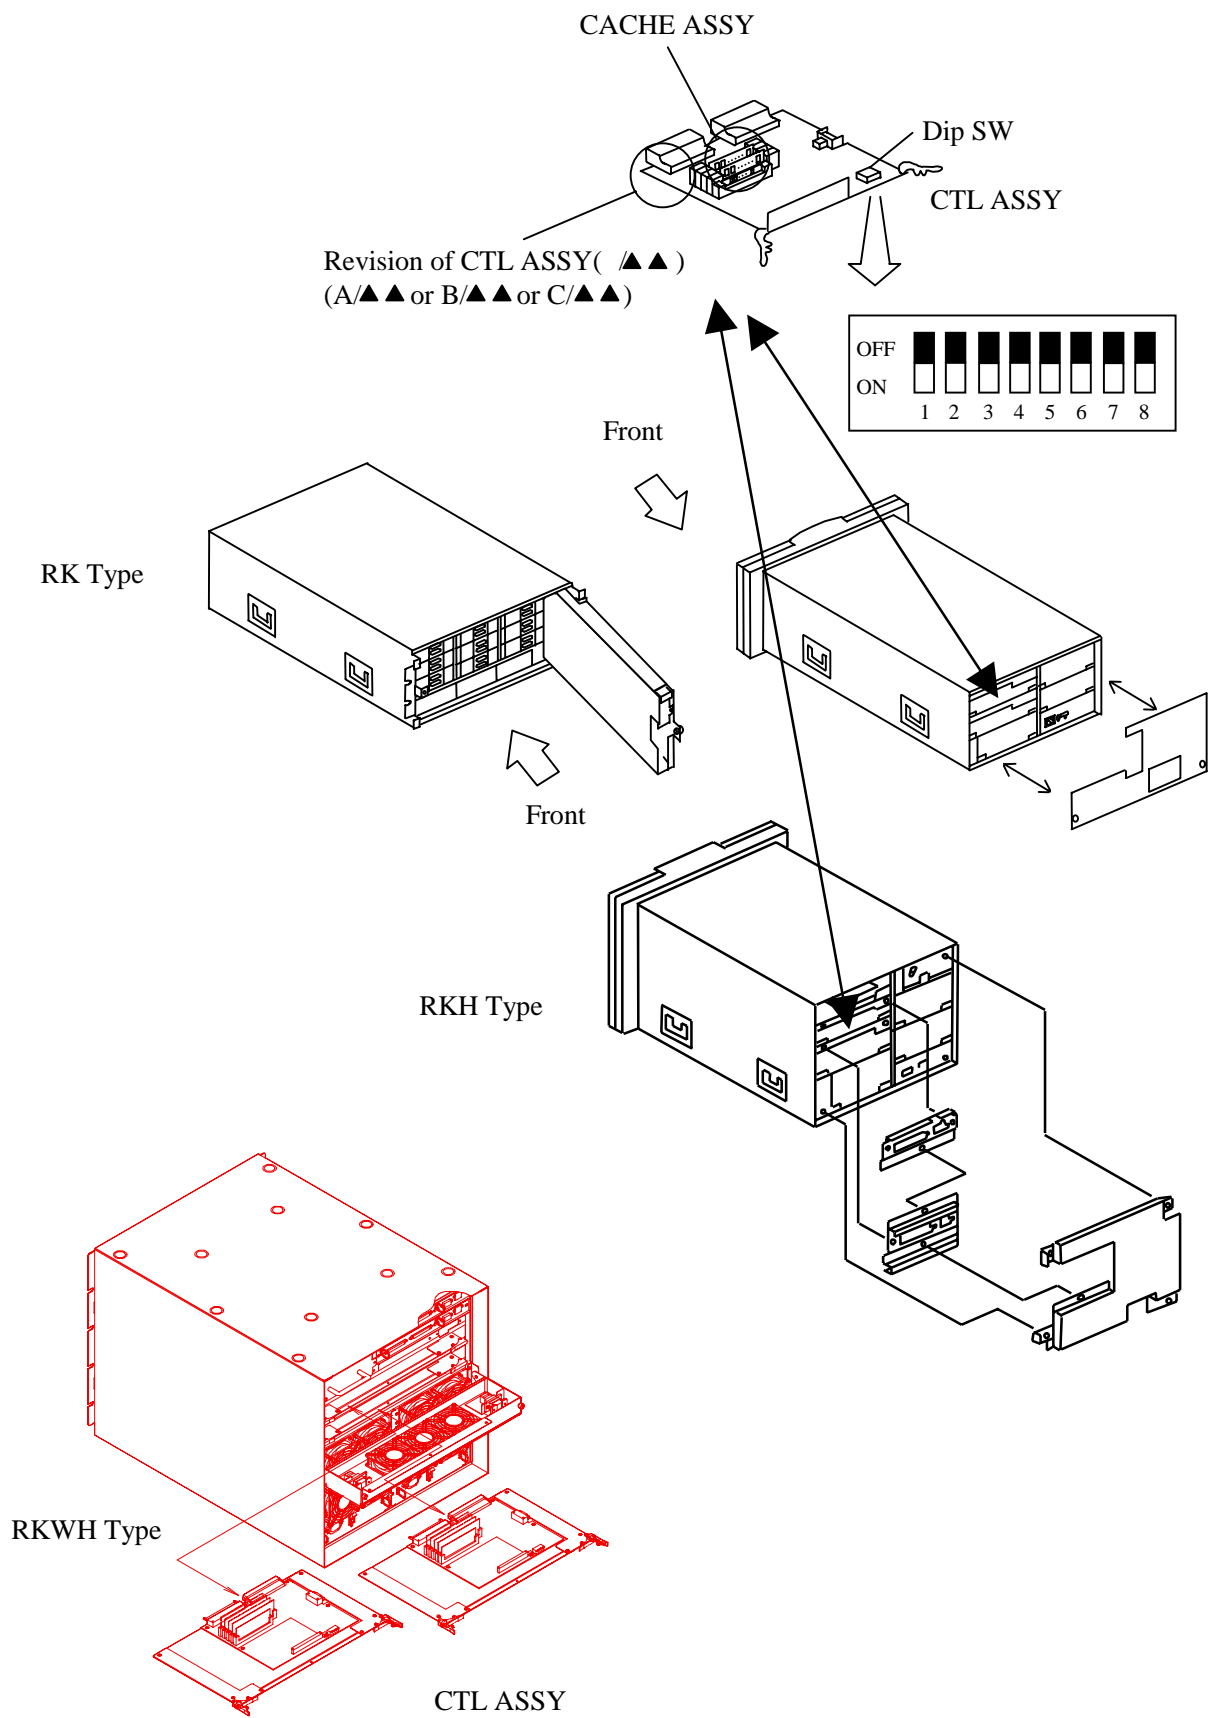

Figure 5.4.1 Installing the CTL ASSY
- (1) Open the side covers.
- (2) Remove the CTL ASSY. (See Figure 5.4.1 in Sheet No. 60.)
(See Figure 5.4.1 in Sheet No. 60.)
- (2) Remove the CTL ASSY. (See Figure 5.4.1 in Sheet No. 65.)